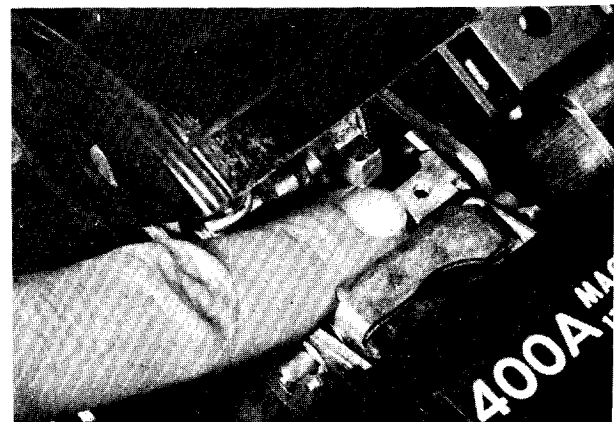

Figure 3
2. With the breaker *tripped*, hold the handle as far as possible toward ON and install the breaker mounting bracket on the *right-hand* breaker mechanism frame (Figure 3).